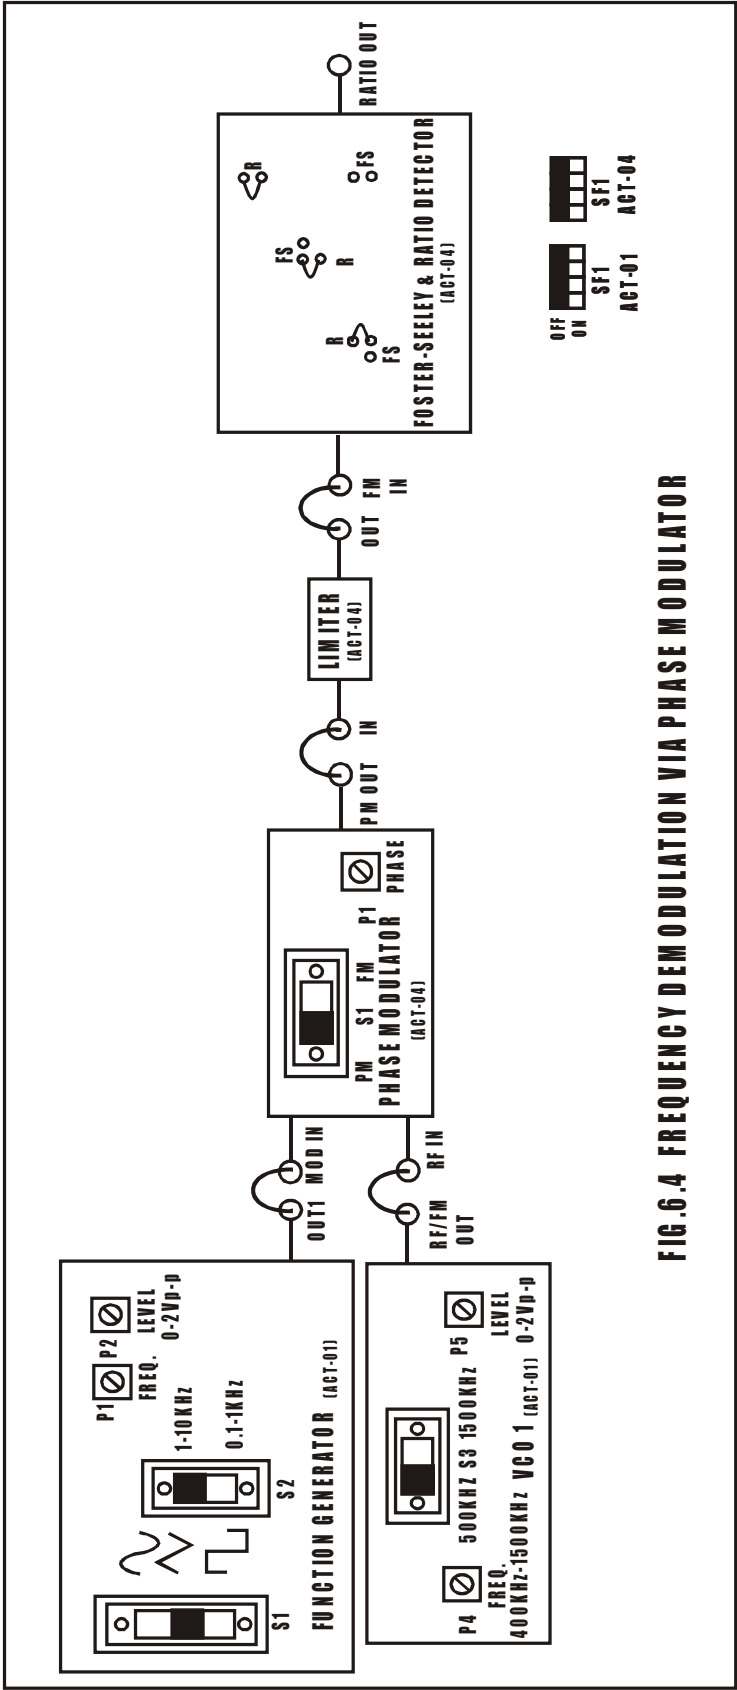

FIG.6.4 FREQUENCY DEMODULATION VIA PHASE MODULATOR
- Refer to the fig.6.4 & Carry out the following connections and switch settings.